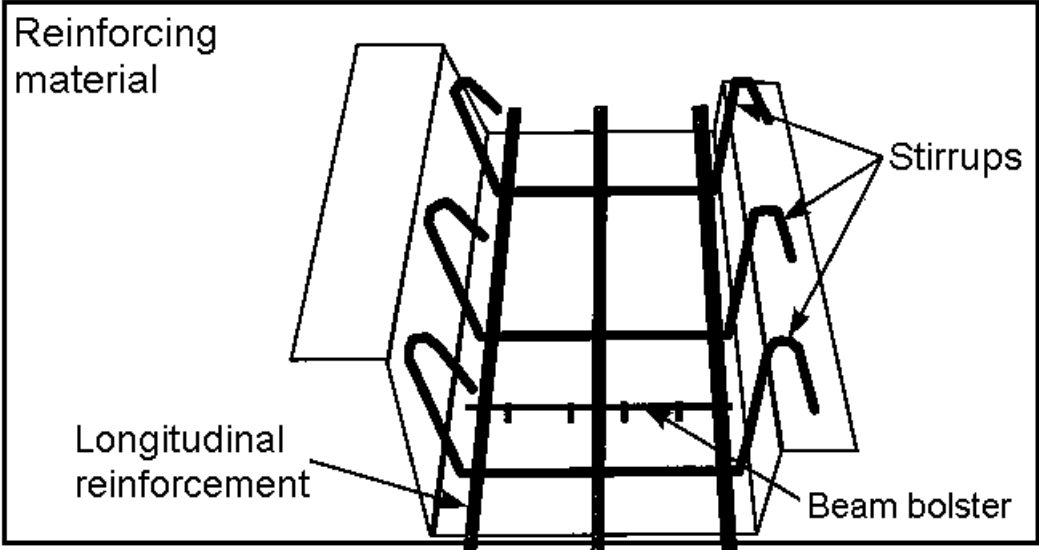

Figure 051-236-1165-3
- e. Install the assembly into the form on top of the high chairs or bolsters (Figure 051-236-1165-3).